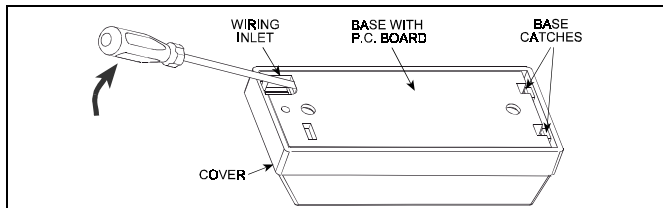

Figure 4. Separating the Cover from the Base
- Remove the unit's cover as shown in Figure 4.